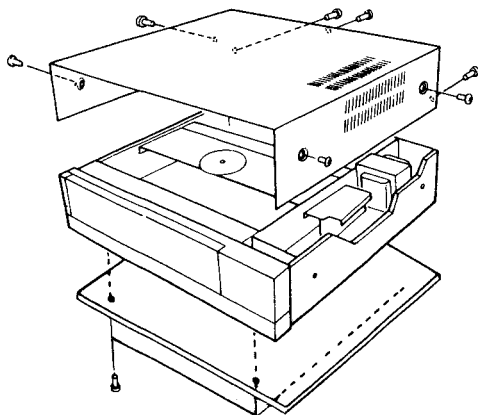

Fig.1
1. Remove the bonnet. (Fig.1)
1. Remove the bonnet and the bottom plate. (Fig.1)